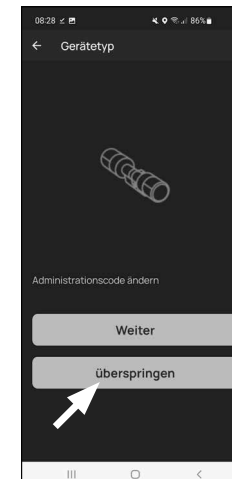

Fig. 6
- 8 A message appears informing you that you can change your administrator code. As you received a randomly generated administrator code at the time of delivery, this step is optional. You can bypass this with "Skip" (Fig. 6).